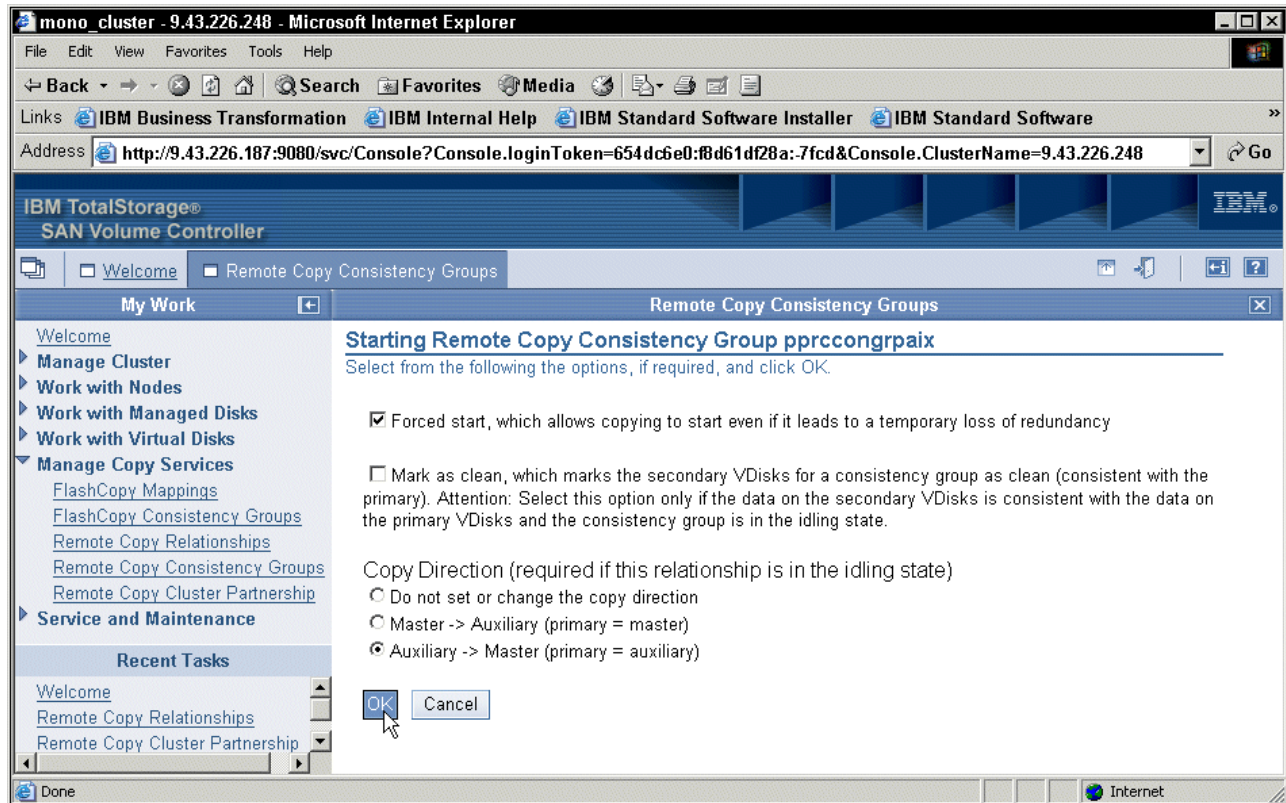

Figure 11-39 Switching the PPRC relationship direction
1. On the Starting Remote Copy Consistency Group panel (Figure 11-39), you have the option to reverse the PPRC direction. In this example, we select the **Forced start** option. Under Copy Direction, we select the **Auxiliary --> Master** option. Then click **OK**.